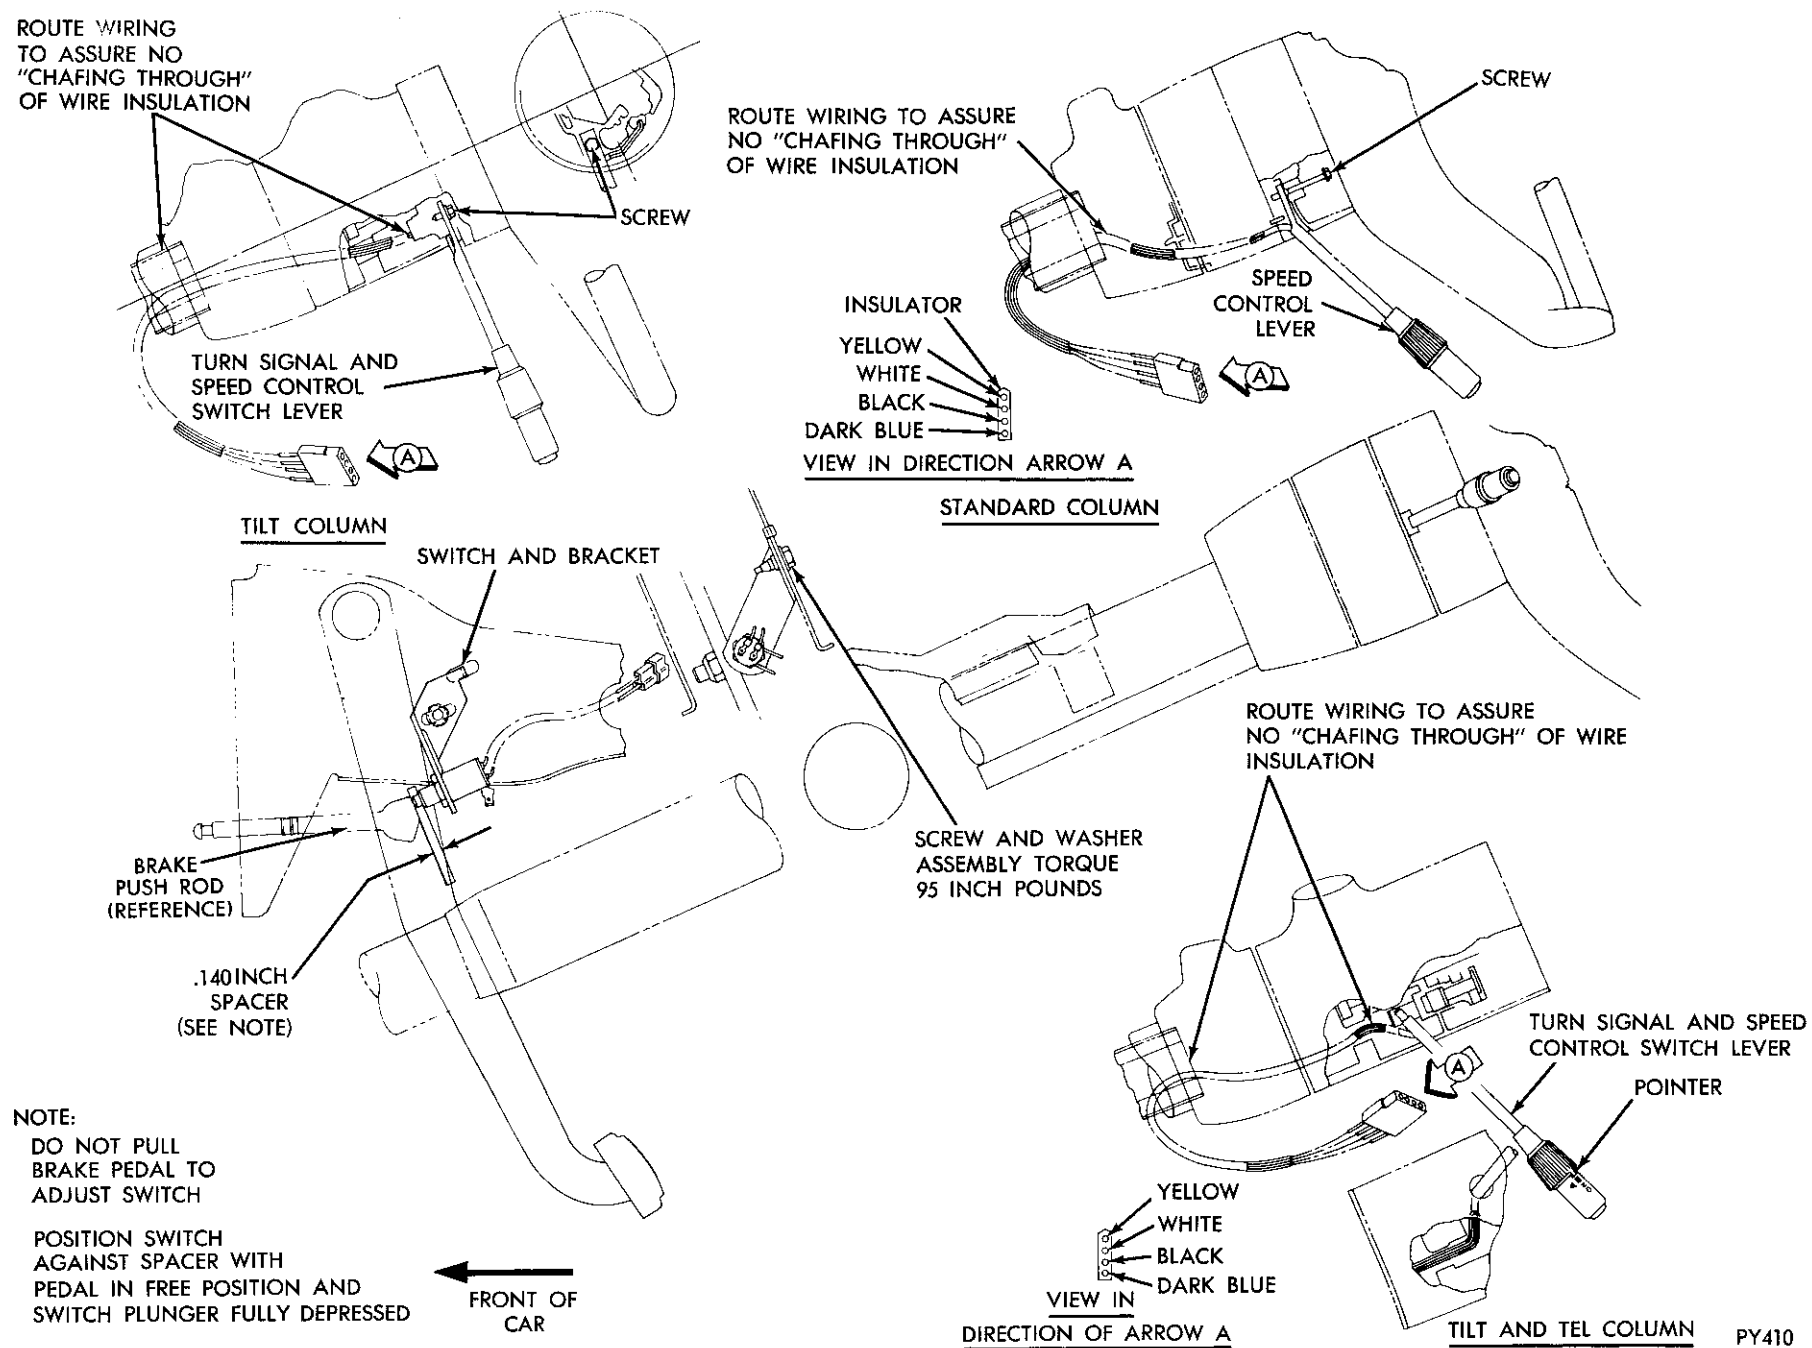

Fig. 4—Stop Lamp and Speed Control Switch Adaptation—Chrysler—Imperial
(5) Remove wire harness trough to facilitate reaching the lower end of speed control switch lead wires (Figs. 4 through 5) and remove wires and terminals from connector with Wire Harness Tool C-4135.
CAUTION: Check color coding of wires to insure they are installed in the proper connector at reassembly. See Figures 4 and 5.
CAUTION: Check color coding of wires to insure they are installed in the proper cavity of connector at installation and assembly. See Figures 4 and 5.